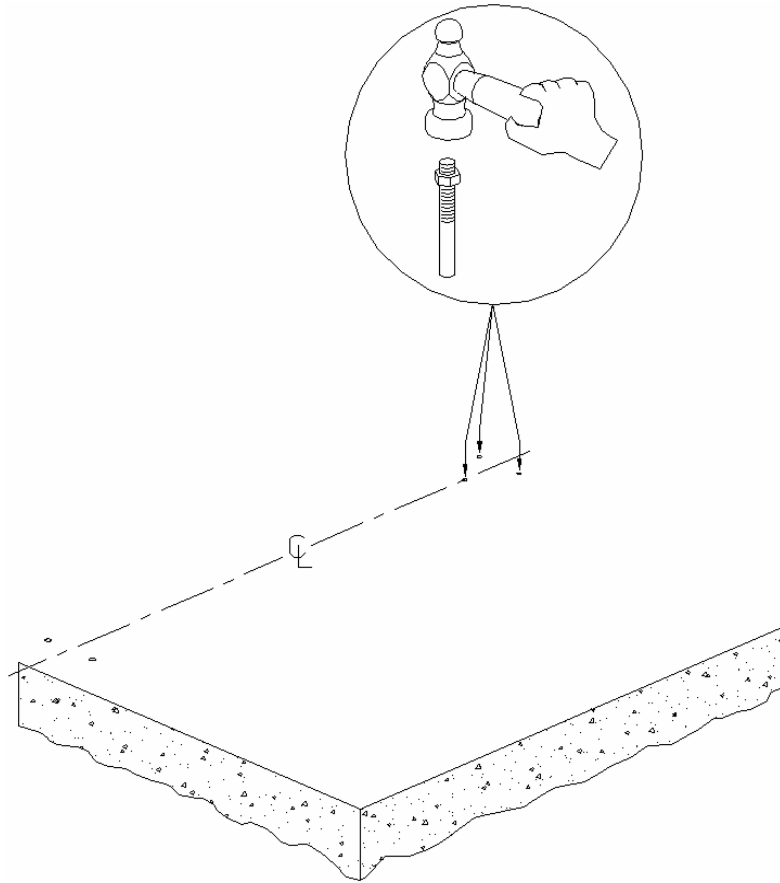
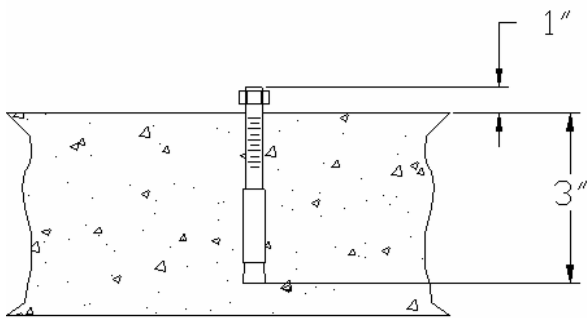

Figure 7
Figure 8
1. Locate anchor stud holes for bottom plate and drive in stud bolts 3/8" – 16 X 4" min. See Figure 7. One inch of anchor stud should remain above floor surface (this allows for thickness of mount plus 1/2 inch of make-up for washer and nut). See Figure 8. Place the bottom plate over studs and secure with lock washers, and nuts. See Figure 9.